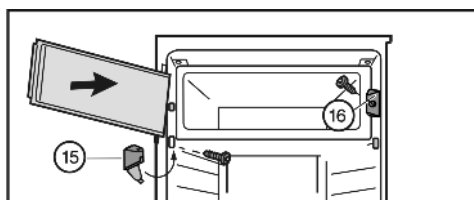

Fig. 8
- ▶ Fit the closing element Fig. 8 (16).
- ▶ Fit the turn hinge Fig. 8 (15) and fold the cover.